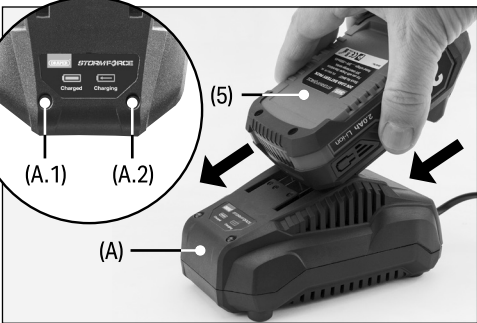

Fig. 2
6.1 Battery Pack Charging (Fig.1 – Fig.2)